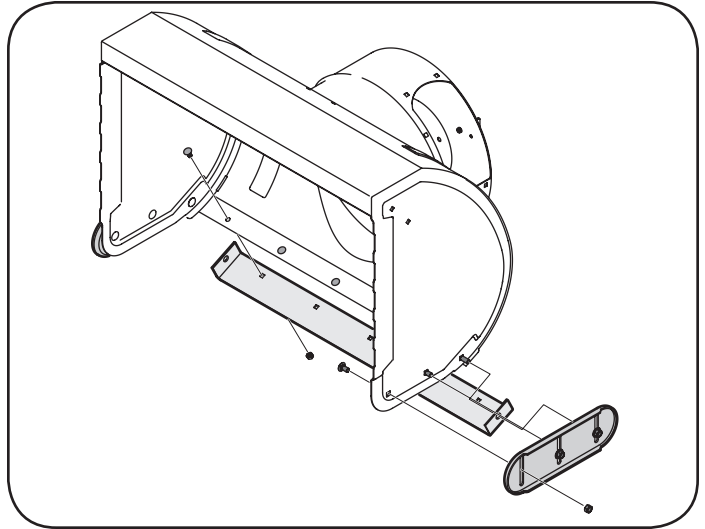

Figure 18
1. Remove the six carriage bolts and hex nuts that secure the two skid shoes to the sides of the auger housing. Refer to Figure 18.